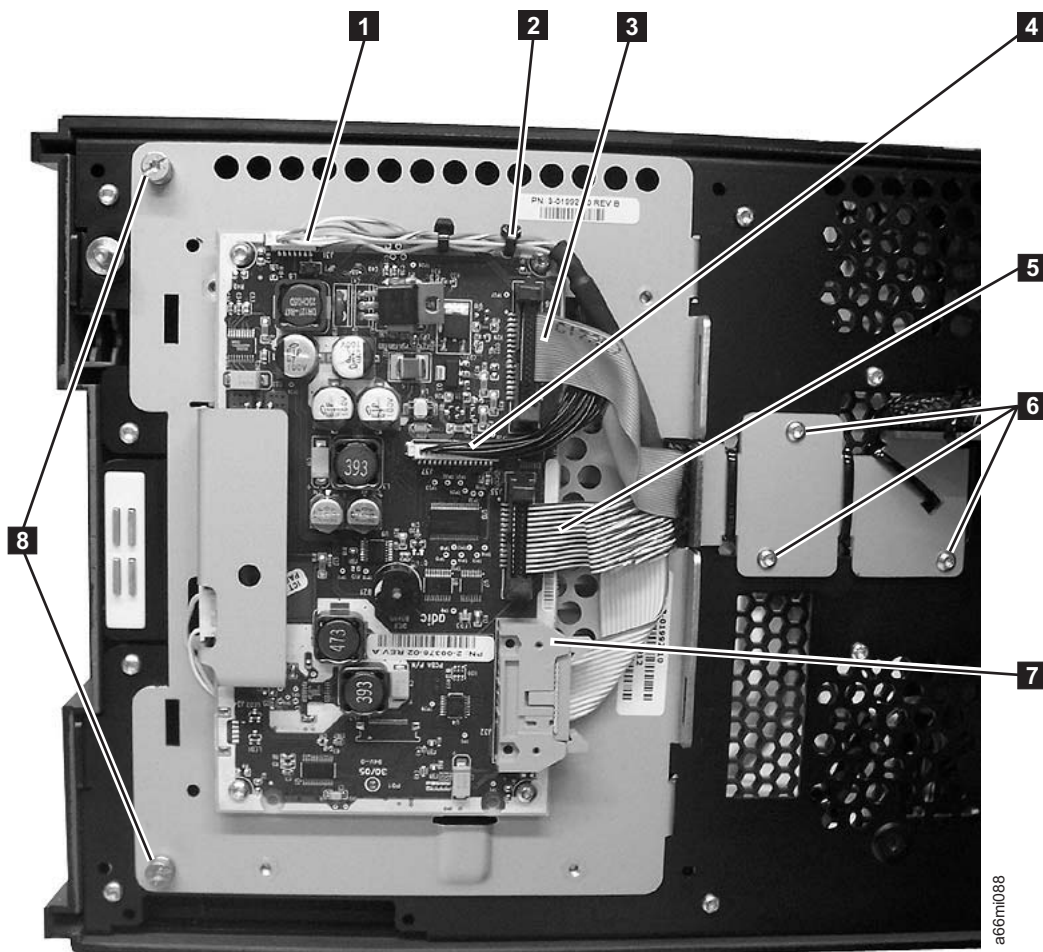

Figure 7-10. Operator panel connectors
1. Visually check, and reseal if necessary, all of the connectors on the back of the operator panel. See **1**, **3**, **4**, **5**, and **7** in Figure 7-10.